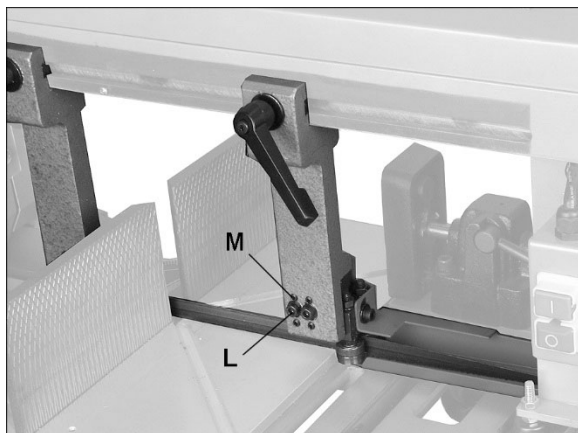

Figure 7-9: squareness adjustment
Refer to Figure 7-9.
- If a gap exists, slightly loosen socket head bolts (L, Figure 7-9) behind blade guide arms. Turn any of four set screws (M) as needed, until gap is eliminated between square and blade.
- Retighten bolts (L) securely.